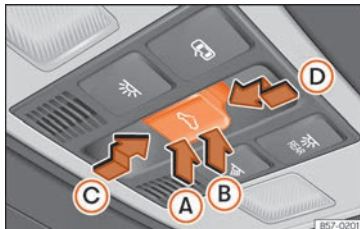

Fig. 128 On the interior roof lining: sunroof button.
The button **Fig. 128** has two levels. The first level switches the sunroof to the tilted position, opening or closing it fully or partially.
- *Sunroof*: within approximately 5 seconds of having activated the roll-back function, press the  button »» Fig. 128 to the second level in the direction of arrow »» Fig. 128 (D) until the sunroof closes completely.